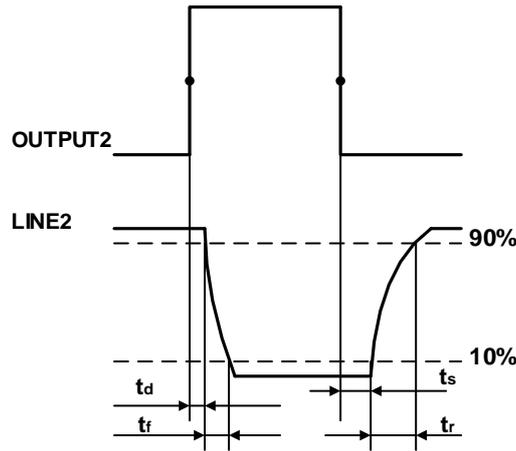

Figure 7-20 Parameter of Line2 output circuit
- Rising time delay = t_r+t_d : <math><20\mu\text{s}</math> (0°C~45°C) (parameter description as shown in Figure 7-20)
- Falling time delay = t_s+t_f : <math><20\mu\text{s}</math> (0°C~45°C) (parameter description as shown in Figure 7-20)